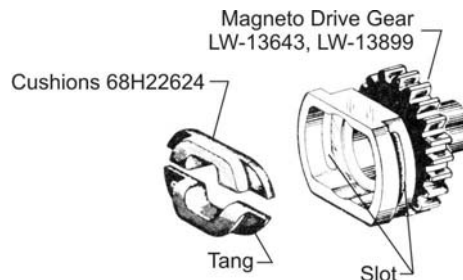

Figure 1
6. Install the new magneto drive cushions **P/N 68H22624** into the magneto drive gear **P/N LW-13899** or **LW-13643** with the tang of the cushion in the slot of the magneto drive gear as shown in Figure 1.